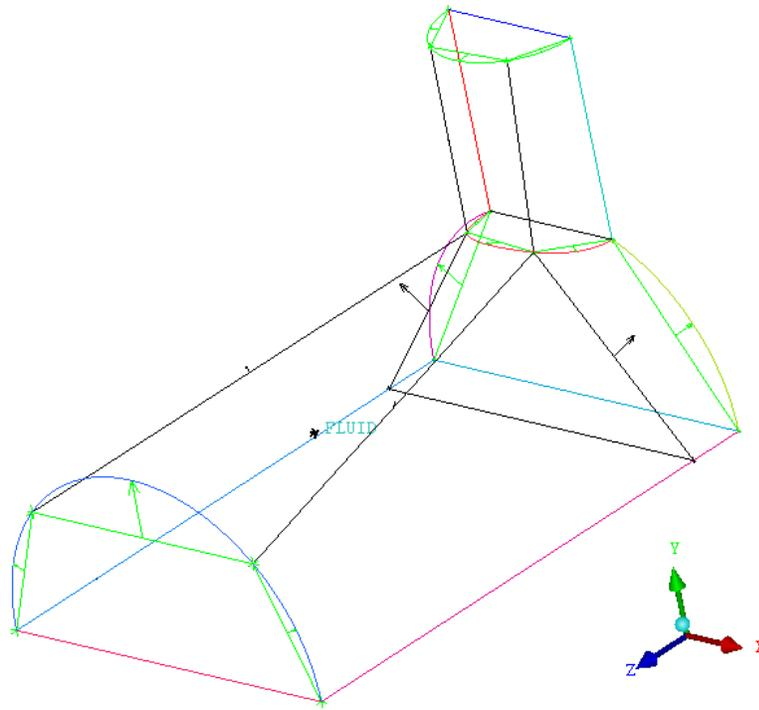

Figure 9: Moved Vertices
- (c) Similarly, move the other vertices to appropriate locations on the geometry (Figure 9).